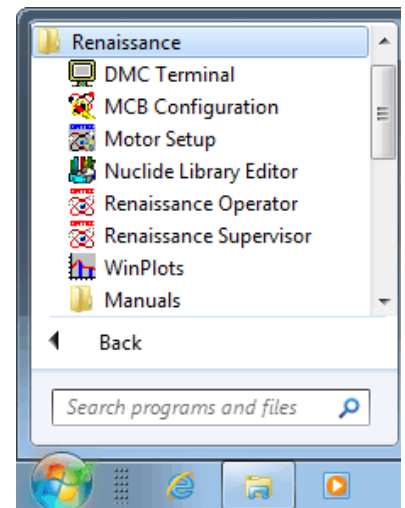

Figure 6. Renaissance Menu.
- 4) Figure 6 shows the Renaissance start menu. To start one of the programs, type the first few letters in the “*Search programs and files*” box on the Windows Start panel, then click the appropriate search result; or open the Windows Start menu and click **Renaissance** and the desired program. You can also start Renaissance by entering **run** in the search box and choosing the **Run** option; or (in XP) by selecting **Run** from the Start menu. The Run option allows you to start up from the command line, with or without arguments, as described in Section A.1.